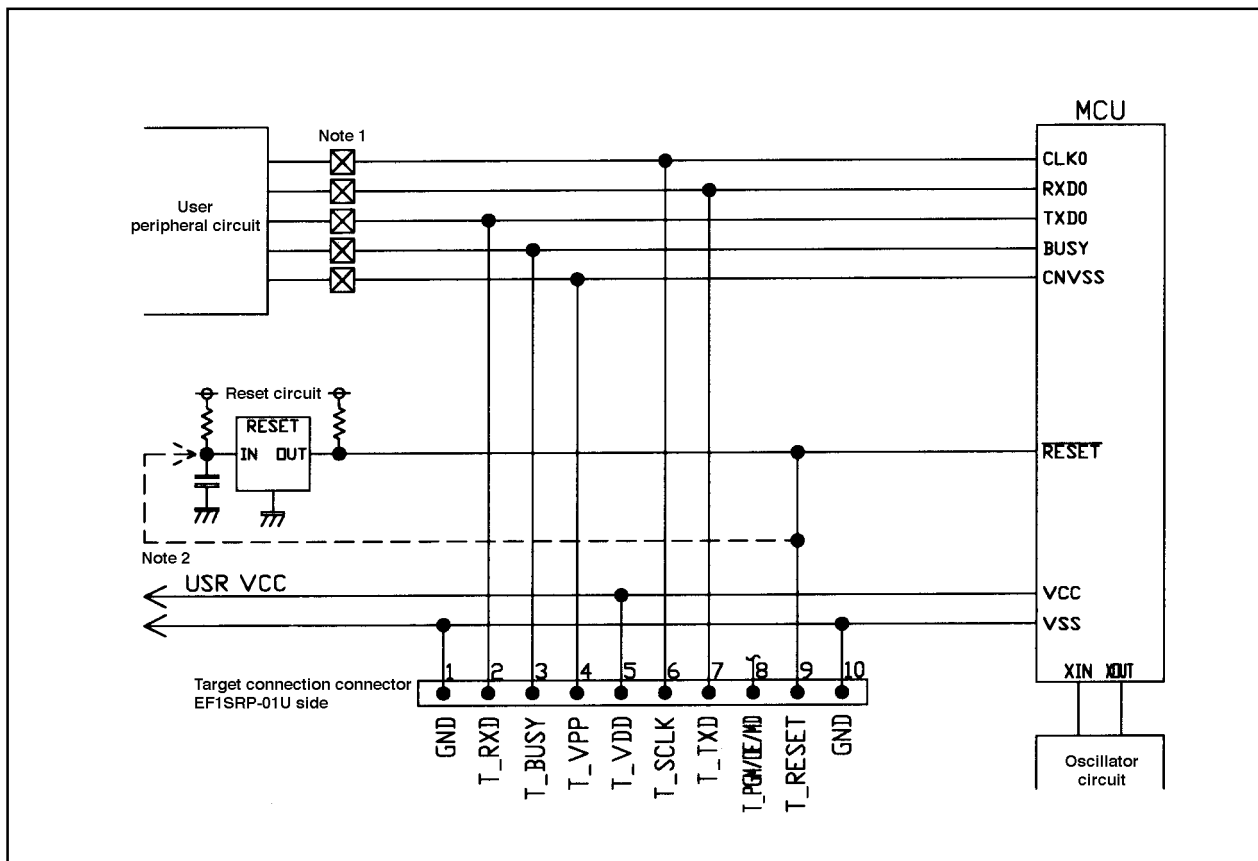

Fig. 4.1: Target MCU Peripheral Circuit Example
(1) An example of target MCU peripheral circuit when using the M16C/20, 21 Series is shown in Fig. 4.1.